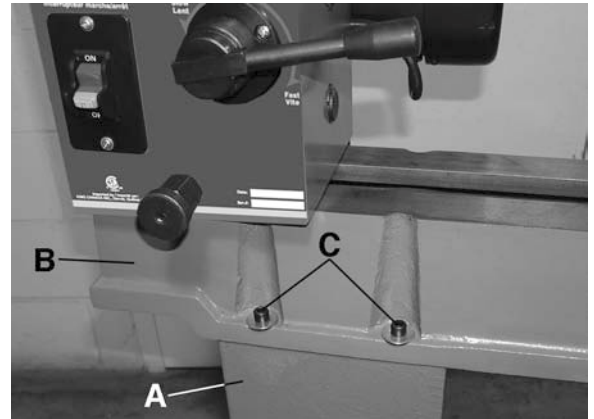

FIGURE 3
2. Position the stand legs (A) Fig.3 standing up approximately 41" apart and position the lathe bed assembly (B) over the stand legs.
4. Insert four cap screws and washers (C) into the mounting holes in each end of the bed and tighten them using a hex. key.